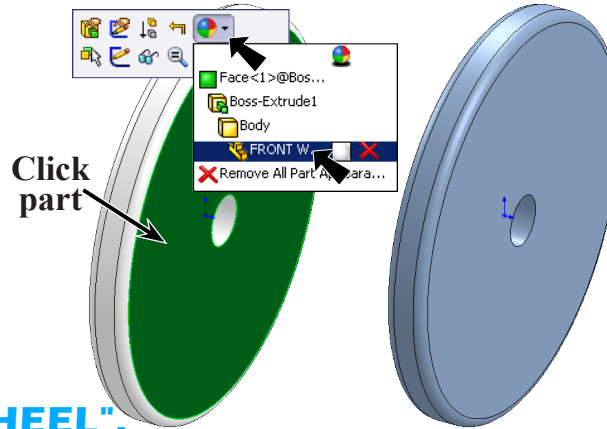

Fig. 12
Step 1. Click the Front Wheel, click **Appearance Callout**  on the Content toolbar and click **FRONT WHEEL** , Fig. 12.